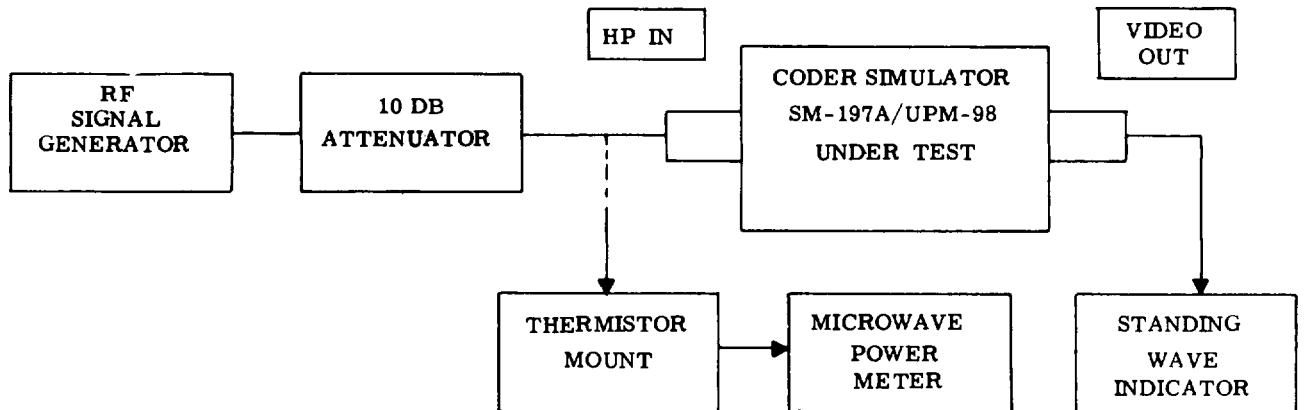

Figure 5-20. Demodulator Assembly 8A4, Frequency Correction Test Equipment Setup
(3) DEMODULATOR FREQUENCY CORRECTION,
- Step 1. connect Radar Test Set AN/UPM-98A and test equipment as shown in figure 5-20.